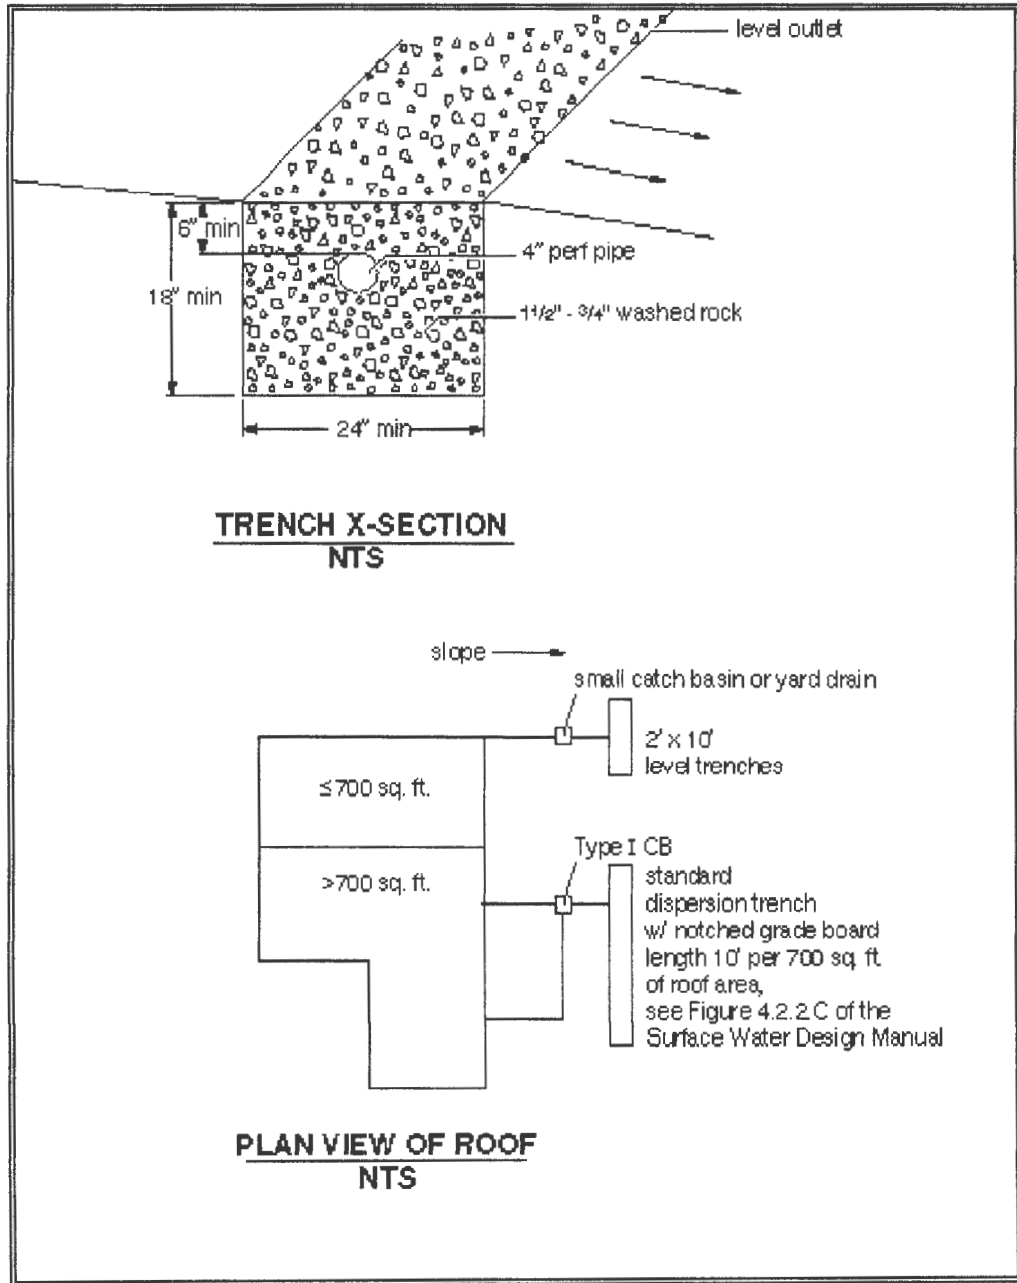

Figure 5.1 – Typical Dispersion Trench
- Calculated length of trench using formula given in 2005 SMMWW, Figure 5.1